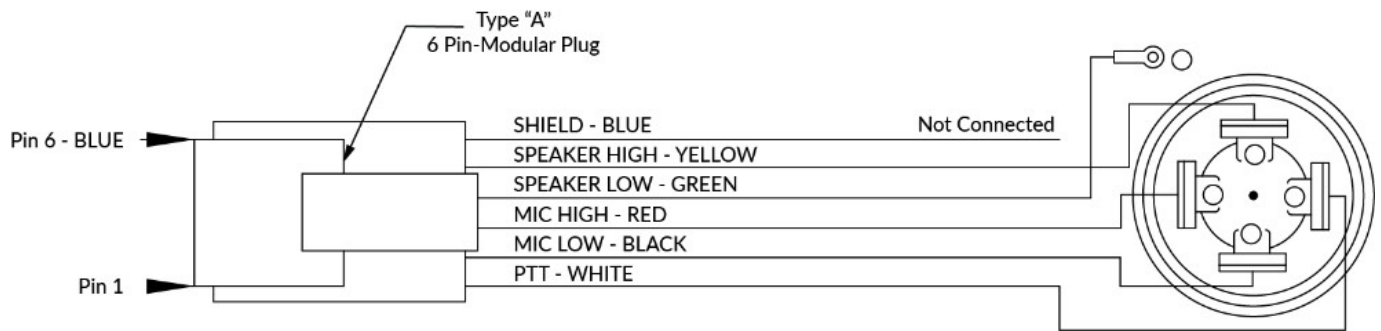

Figure 1
7. Holding the cable so it's orientated like in Figure 1 from the Wiring Diagram section below, push the cable into the plug as far as it will go.